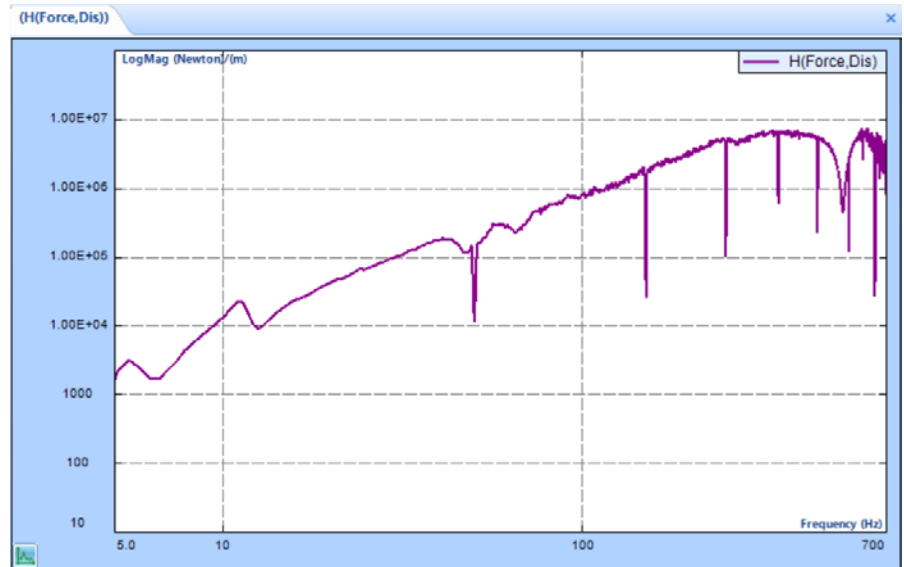
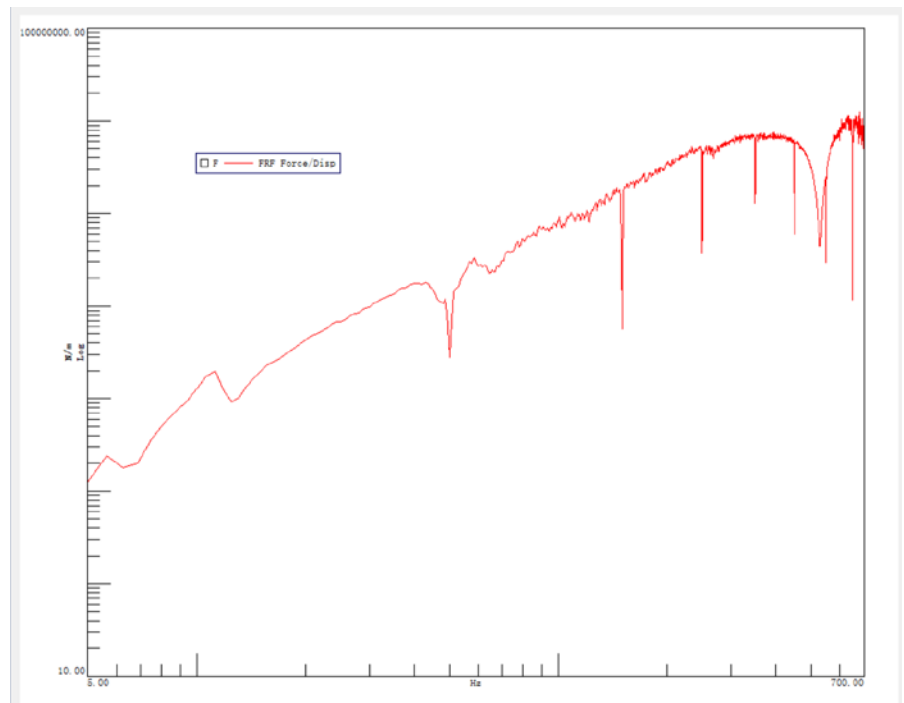

Figure 1.2
Figure 1.3
1. Dynamic stiffness of direct acquisition (Figure 1.2 and Figure 1.3)